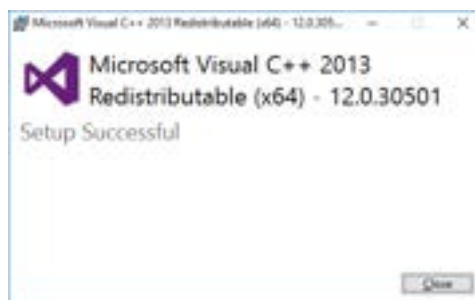

Fig 4-3 Installation Complete screen
5) The dialogue such like Fig. 4-3 is displayed. Click “Close”.